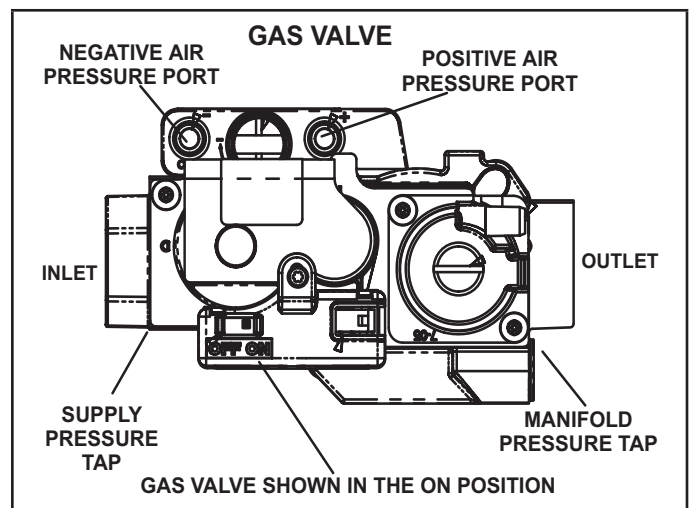

FIGURE 51
## Gas Valve Operation (FIGURE 51)
- 6 - Move the gas valve switch to the OFF position. See FIGURE 51.
- 8 - Move gas valve switch to the ON position. See FIGURE 51. Do not force.